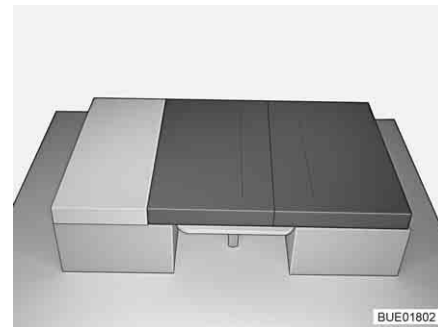

Fig. 115 After conversion
- Place a back cushion between seat cushion and bench seat rear wall (see Fig. 115).